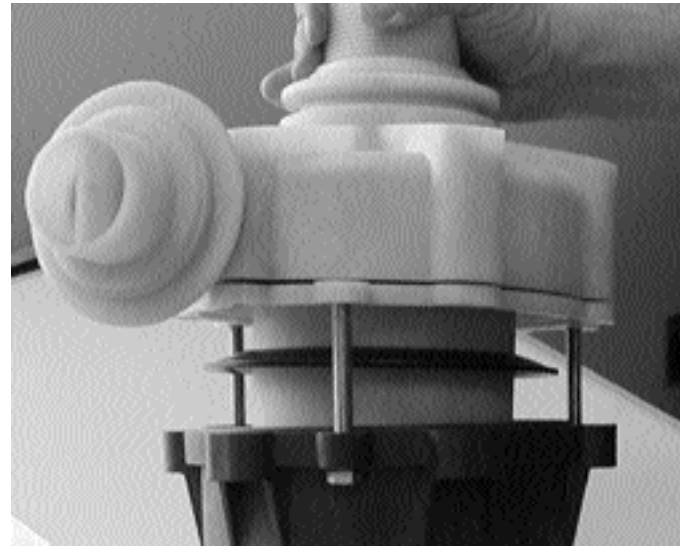

FIGURE 14
11. Install 3 -3/8"x 3" full thread screws (24) into adapter (3). These screws should be installed with the hex toward motor and threaded into 3 bosses on adapter (3). Screws should be fully extended almost bottoming as the hex nears the adapter. These screws will be used to lower the powerful magnet/cup assembly into the drive magnet assembly. **See Figure 14.**
2. With both subassemblies complete, you will now look at the orientation of the cup (8) versus the adapter (3). There is a "flat" ear on both that corresponds. There is also 3 "ears" on the cup that correspond to the 3 bolts sticking out of your adapter.
4. Remove the disk (7) from the adapter (3) and slide it onto the cup (8). Be careful, the disk is magnetic and will shift with the magnet inside the cup. The arched section of the disk should correspond with the back face of the cup. Make sure the 2 surfaces match.
5. Holding the wet end subassembly with the disk, lower the assembly until the 3 bolts contact the 3 bosses in the cup. Look carefully under the cup where the bolts made contact. Make sure the 3 bolts are rested inside the counter bores in the cup adjust or remove and replace if necessary. **See Figure 14.**
6. You will notice that the disk (7) has centered itself with the magnets. As you lower the assembly, you will need to make sure the disk seats into the counter bore in the adapter (3) properly.
2. Remove 6 - 3/8"x 3 " bolts (20), nuts (22), and washers (17).
3. Using 3 - 3/8"x 3" full thread bolts in adapter. Separate wet end by tightening these a few turns at a time. Do this in a circular sequence to slowly separate the assembly until all 3 bolts are fully extended. **See Figure 14 and 15.**